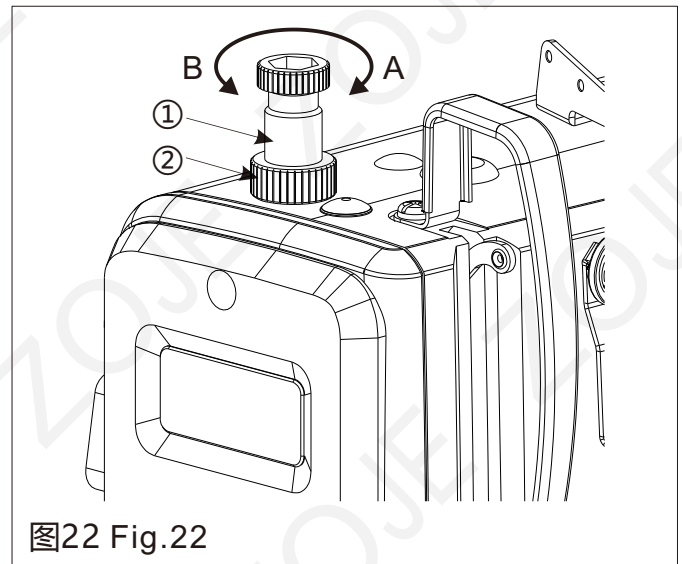

图22 Fig.22
- 1) 上图标样(见图22)可根据不同的缝纫工序需求进行增或减的微调整，但应注意不要增加或减少过多。油量过少时会引起旋梭发热，油量过多时会污染缝料。
1) The guide sample shown in the right-hand figure(see Fig. 22) may be finely adjusted (increased or reduced) as per different sewing processes; however, excessive increase or reduction shall be avoided. Too little oil mass may lead to rotating hook heating, and over much oil mass may lead to contamination of the sewing materials.
18 压脚压力的调节 (图22) Adjusting the Presser Foot Pressure(Fig. 22)